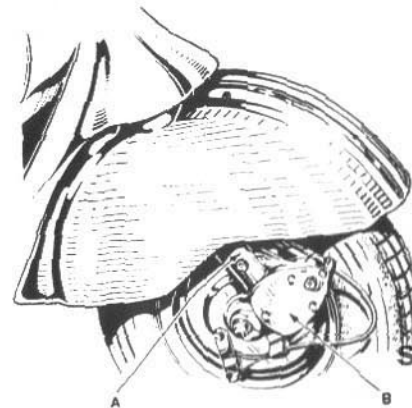

Fig. 2
The front suspension (fig. 2) is realized by means of trailing links. Each trailing link is connected to a lever bearing an end ball which compresses a progressive type spring, located inside the fork tubes (A). This group is hermetically protected against water and dust and operates in the grease enclosed within the boxes (B) the result being longer working life and non maintenance.